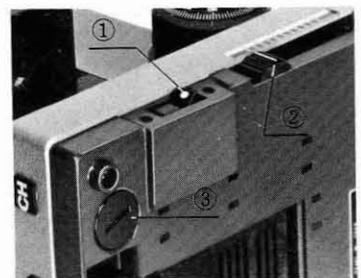

Fig. 1
For adjustment of the minimum line voltage, ascertain that the voltage selector switch is set to conform with the local mains voltage, and the sliding control lever ② is positioned closest to you (low voltage), and then activate the main switch ①. If the bulb is dimly lit, the secondary voltage is correct. If it is not lit at all, rotate the rheostat trimmer screw ③ gradually with a coin, until the bulb is dimly lit; then push the sliding control lever forward in order to obtain optimum light intensity. (Fig. 1)